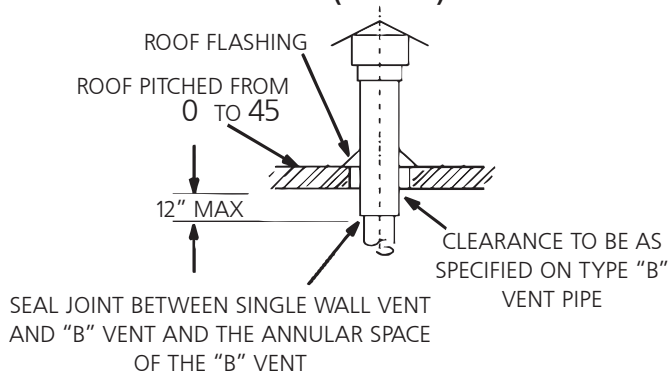

FIGURE 2
1. US: HSU unit heaters are to be used with NFPA- or ANSI-approved chimneys, U.L. listed type B-1 gas vents, single wall metal pipe, or listed chimney lining system for gas venting where applicable, as well as the modifications and limitations listed in figure 2. Seal single wall vent material according to the section A - General Recommendations and Requirements.
- When termination is routed through an exterior combustible wall the vent must be supported using a listed clearance thimble. Seal the connection between the single wall and double wall pipes and the annular space of the double wall pipe as shown in figure 2. Inside edge of vent termination tee must be at least 12 inches from outside wall as shown in **figure 3**.